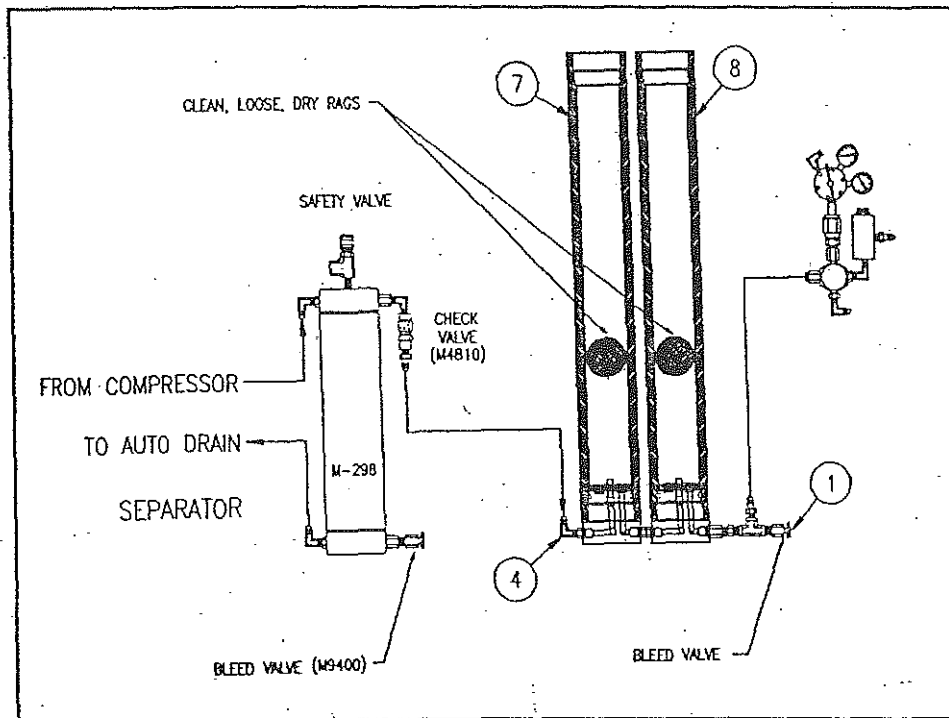

FIGURE 5-8 CHAMBER DRYING
8. Soak up any water in the bottom of the chambers (7) (8) using clean, dry rags (see Figure 5-8).
9. Reconnect the line at fitting (4) (see Figure 5-8).